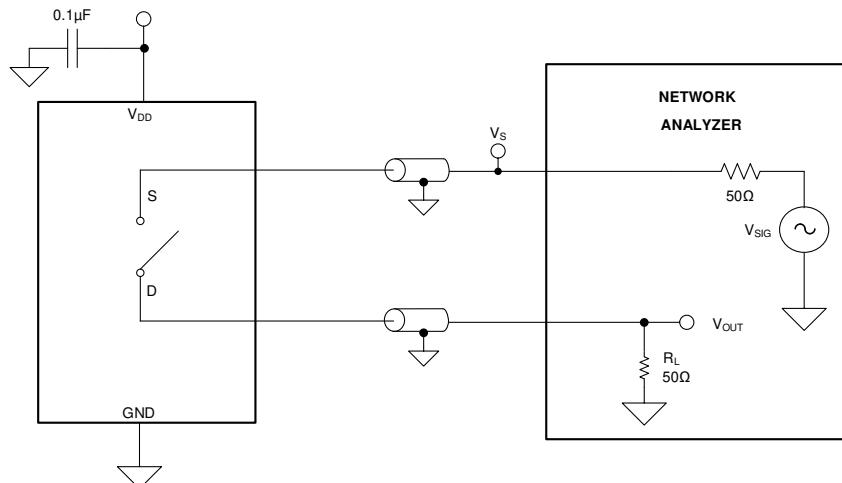

Figure 7-6. Off Isolation Measurement Setup
Off isolation is defined as the ratio of the signal at the drain pin (D) of the device when a signal is applied to the source pin (S) of an off-channel. The characteristic impedance, Z_0 , for the measurement is 50Ω . Figure 7-6 shows the setup used to measure off isolation. Use off isolation equation to compute off isolation.